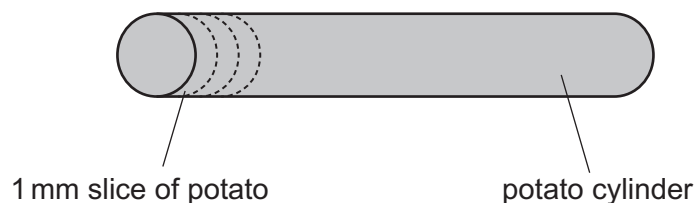

Fig. 1.1
- (ii) **Step 4** Cut three 1 mm slices of potato from the potato cylinder as shown in Fig. 1.1.